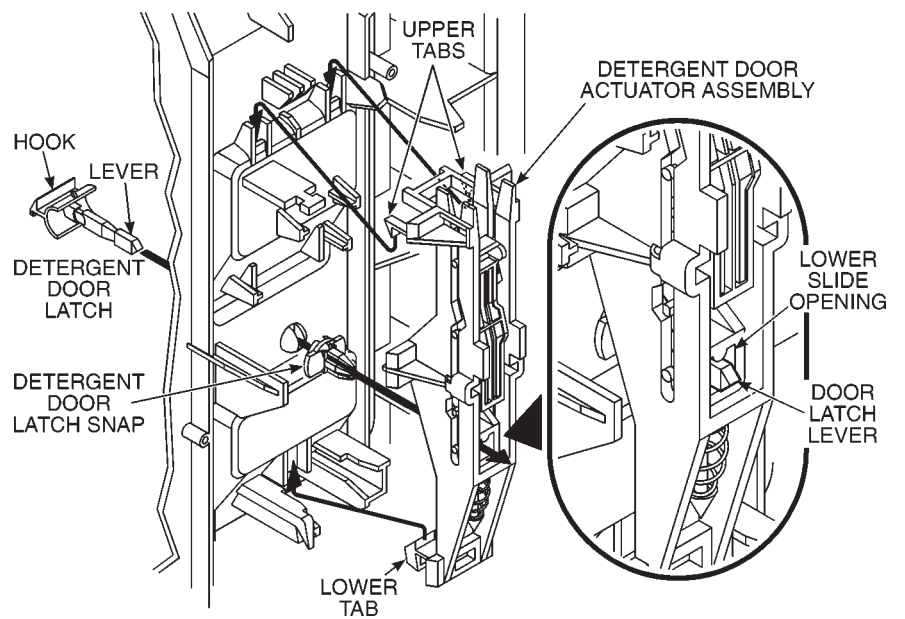

Fig. 1-31
10. Use a screwdriver to gently release the lower tab and remove the detergent door actuator assembly. As you do, note the position of the door latch level through the hole in the lower slide. (Fig. 1-31)
2. Pass the detergent door latch lever through the panel making sure to turn the hook of the latch toward the detergent door. Snap the detergent door latch snap onto the door latch lever. (Fig. 1-31)